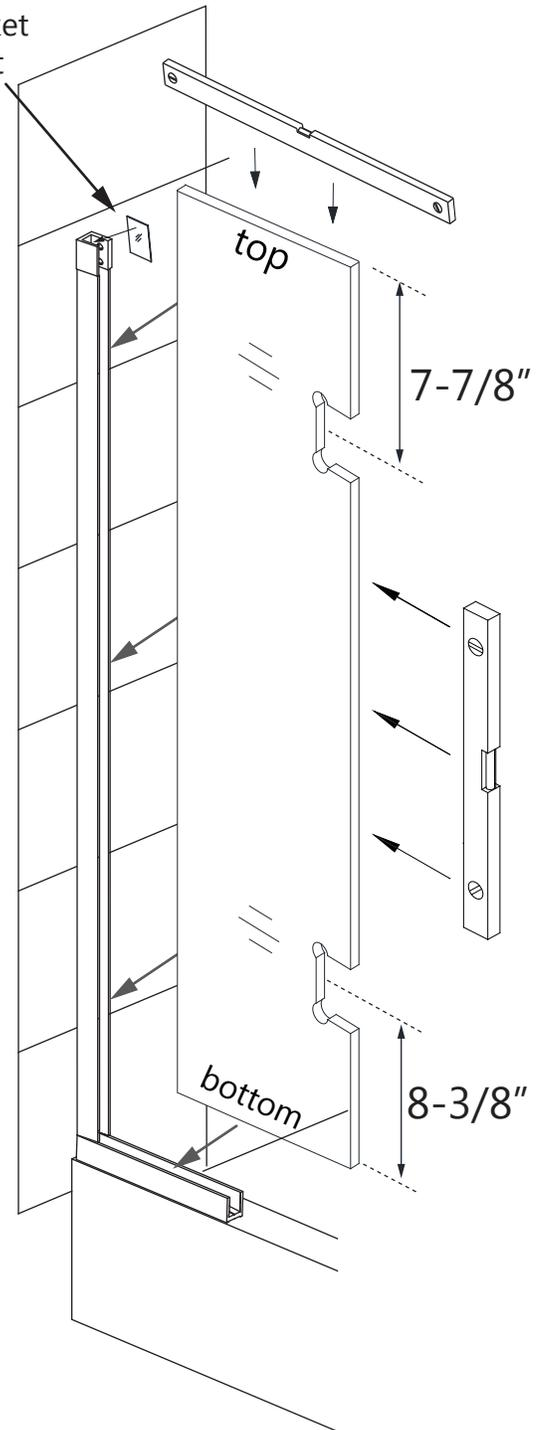

Fig 10
8. Install the **Hinge Panel Glass (#32)** into the U-channel, checking for level and plumb. Install the gasket into the **Hinge Panel Glass Bracket**. **(Note: Make sure the top of the hinge panel glass is at the top).** **(Fig 10)**